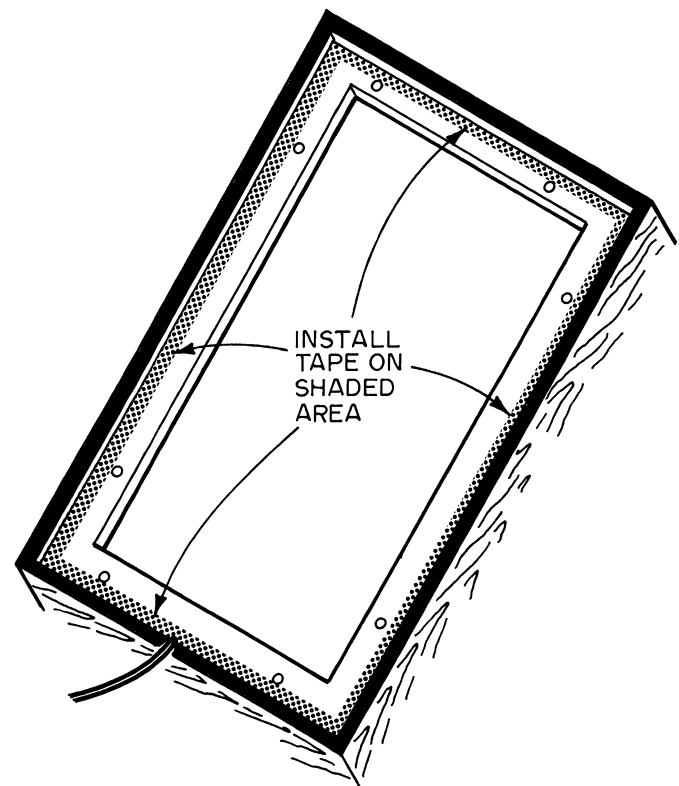

FIGURE 15 – INSTALLING TAPE
11. Apply a strip of tape (Zenith part number 140-313) to the surface of the back, remaining in the enclosure, against which the replacement back will rest (See shaded area in Figure 15). This tape must be used to prevent air leaks.